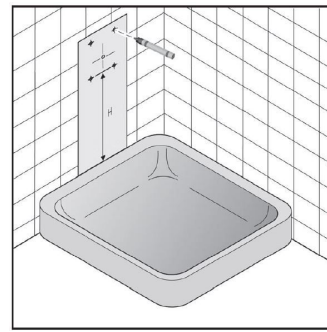

Fig. 7
6. Place the template on the wall so that the cut edge is flush with the upper edge of the shower tray. (Fig. 7)